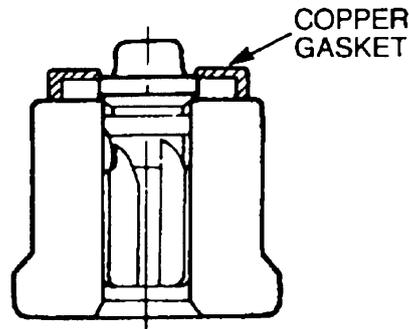

Figure 77 Delivery Valve and Gasket
- d. Lubricate the delivery valves with clean diesel fuel and install them into their respective bores together with new copper gaskets ensuring that the gasket is installed as shown in Figure 77.